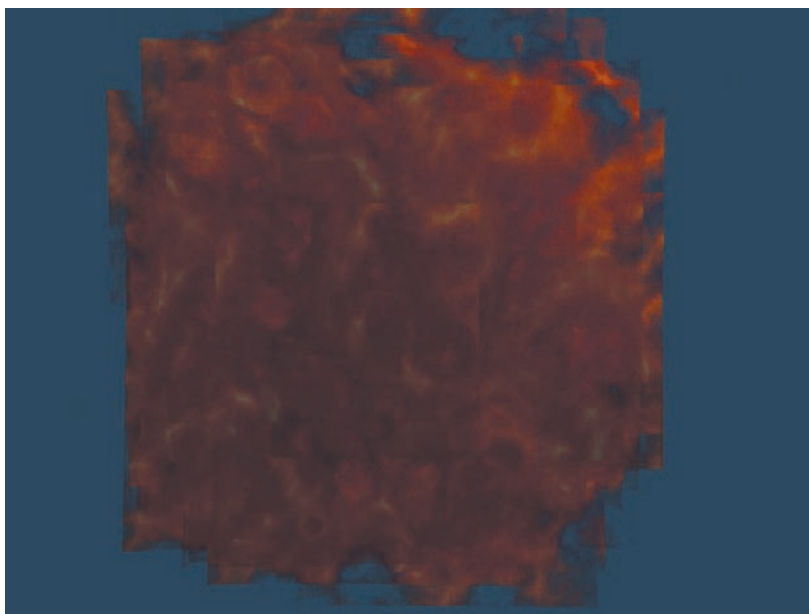
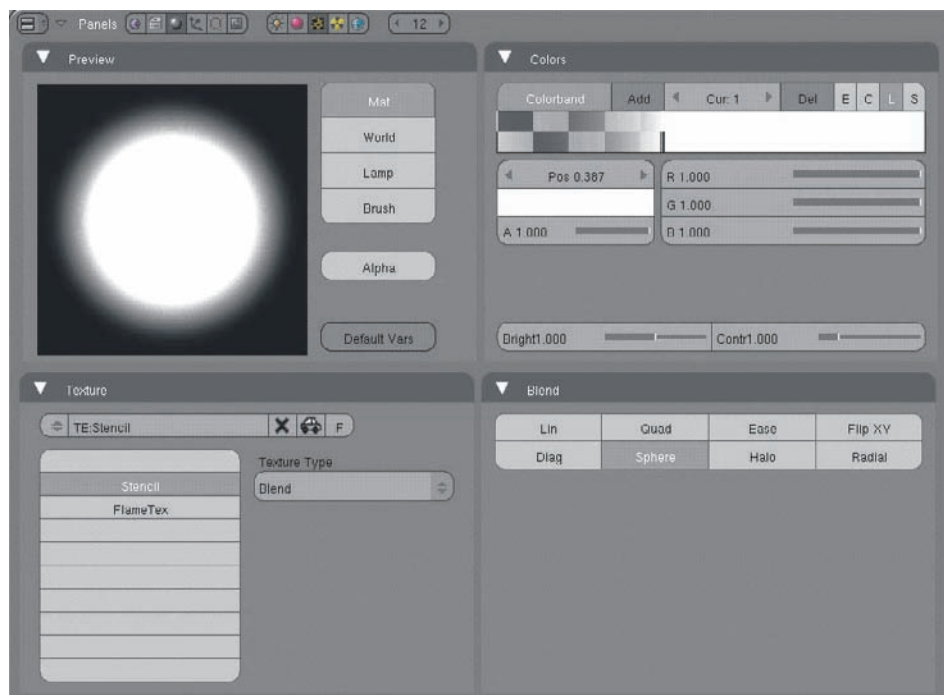
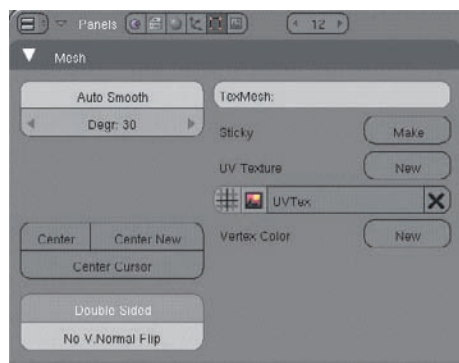

Figure 2.34 Rendering the material so far
Figure 2.35 The Stencil texture
Figure 2.36 Adding a UV texture
8. If you advance a few single frames to emit some particles and render now, you'll see something along the lines of Figure 2.34. It's a start, but obviously it doesn't look much like a flame. For one thing, the flame seems to be composed of a collection of straight-edged panels. This should come as no surprise, because that's exactly what's happening. So far, nothing has been done to conceal the shape of the billboards. The other problem with this material is that it's dingy. Fire emits light, so it won't do to have it looking as dark as this. It is possible to deal with both of these issues simultaneously by using another texture. First, move the Flame texture to channel 2 in the Texture tab of the Materials buttons, as you saw how to do in the ocean tutorial in Chapter 1, "Re-creating the World: An Overview." The new texture will need to be above the Flame texture, so add a new texture in channel 1. Name the texture *Stencil* and set its values as shown in Figure 2.35. Choose Blend from the Texture Type drop-down menu, and select Sphere in the Blend tab. Activate the colorband and set it as shown in the figure, with a gradation between a white alpha 1 color and a black alpha 0 color. Return to the Edit buttons and add a UV texture to the object, as shown in Figure 2.36. Finally, set the mapping values of the texture on the material as shown in Figure 2.37. In Map Input, select UV. This will map the full sphere blend texture onto each individual billboard panel. In Map To, set the texture to Stencil, and select the Emit value to be affected by the texture. The stencil value hides textures that are located on lower channels, so that the Flame texture appears as a soft-edged circle. Selecting Emit makes the material emit light in proportion to the value of the texture.